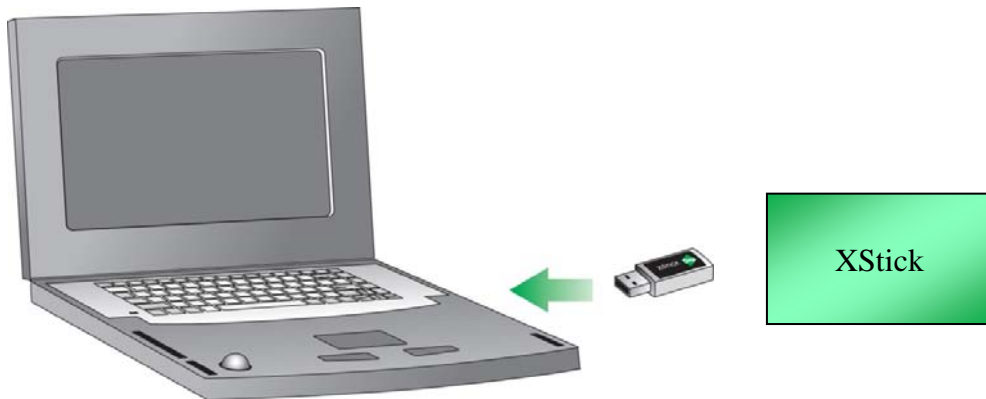

Figure 1: XStick setup
2. Plug in the Digi XStick [Fig 1]. The Found New Hardware Wizard dialog box will load.